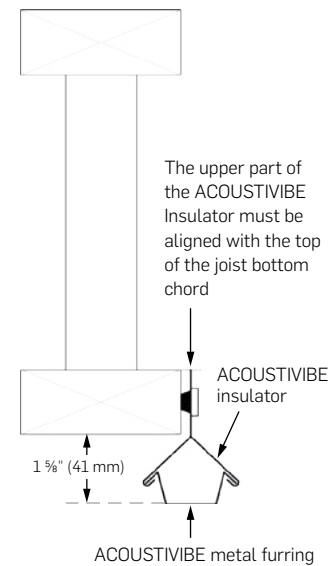

Figure 1
4. To ensure that the ceiling is straight, the ACOUSTIVIBE insulators are aligned with the upper edge, flush with the top of the bottom chord (2" x 3" or 2" x 4") of the joist (Fig. 1). For beams, a line is drawn at 1.5" from the bottom, and the top edge of the ACOUSTIVIBE insulator is aligned with it.